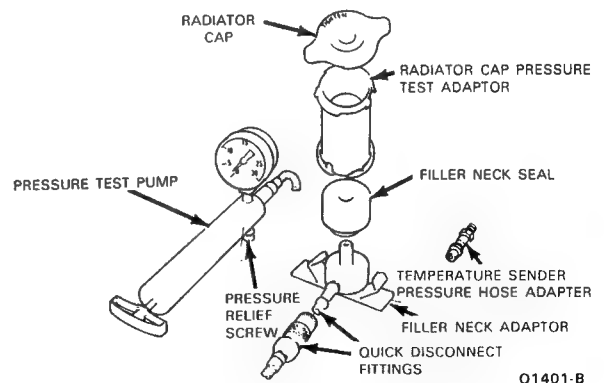

FIG. 2 Pressure Test Pump and Attachments
- Install the adapter fitting from the Rotunda Pressure Tester 21-0012 (or equivalent) (male thread on one end, and a hose connector on the other end to accommodate the tester hose) tightly into the intake manifold or cylinder head in place of the sending unit. (See Fig. 2).
- Attach the pressure pump and gauge (Fig. 2) to the adapter fitting and pressurize the cooling system to the cap **LOWER LIMIT** as shown in the test chart.
Refer to Fig. 2.